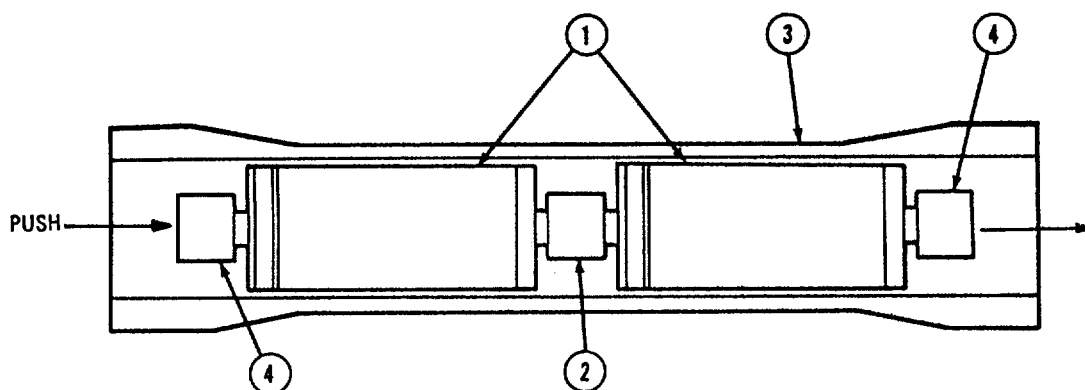

FIGURE 3-9. ELEMENT REPLACEMENT
(10) Refer now to figure 3-9. Slide both R.O. elements (1) and interconnector (2) into R.O. vessel (3) until they are centered in the vessel.
(11) Place end connectors (4) on both ends of product water tubes of R.O. elements. Join them to product water tubes of end caps.